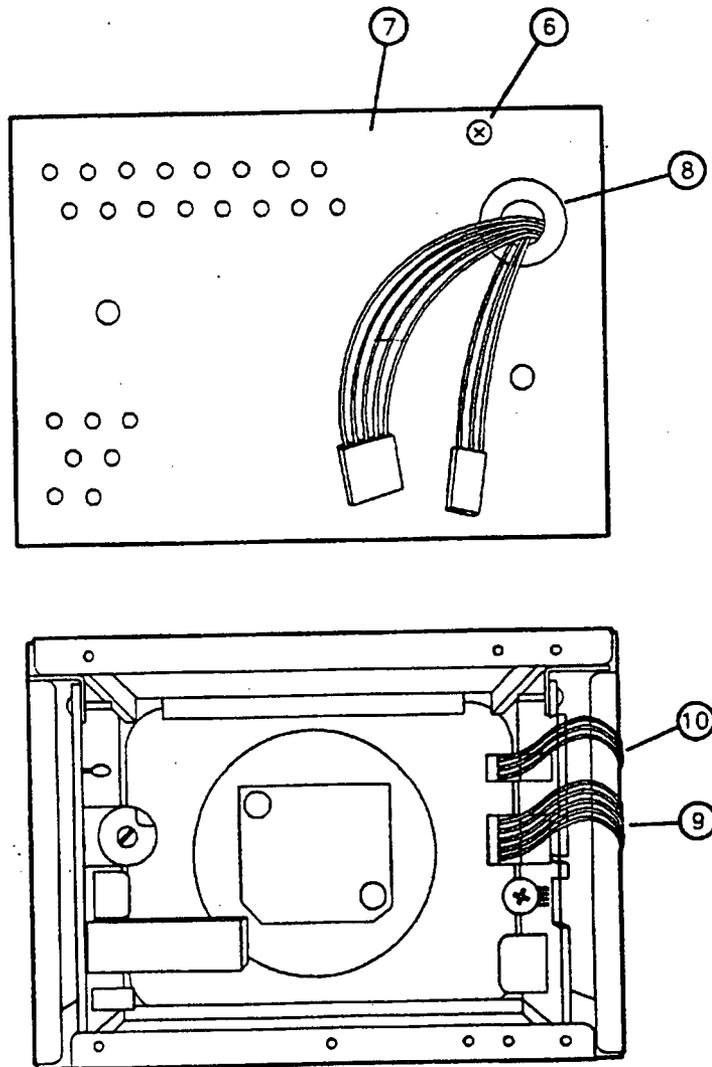

Figure 3-4. A2 Display, Rear View
11. Remove the screw and flat washer (6) that secure the A2 display to its enclosure (7). See Figure 3-4.
12. Slowly pull the display out of its enclosure while routing W2 and W3 through the opening in the enclosure (8).
1. Connect W2 (9) and W3 (10) to the A2 Display. See Figure 3-4.